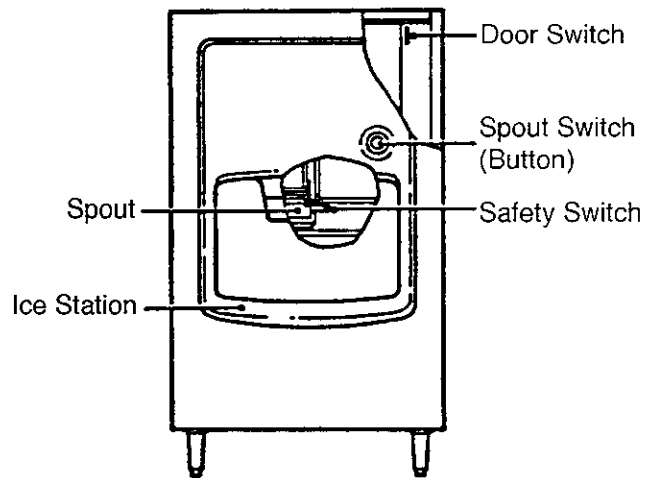

Fig. 3
- Check that the ice dispensing switch and the safety switch are operating correctly. See Fig. 3.